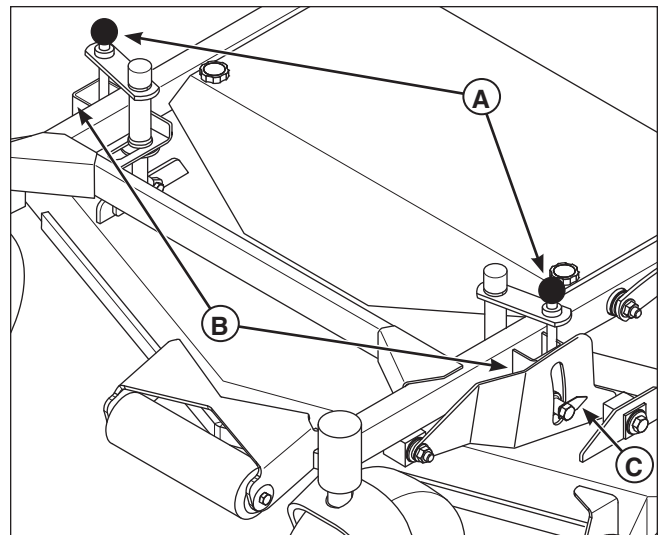

Figure 6. Cutting Height Adjustment
1. Pull the cutting height adjustment handle (A, Figure 6) up and out of the handle lock position (B) and crank the handle **CLOCKWISE** to raise the deck to the desired cutting height. Crank the handle **COUNTER-CLOCKWISE** to lower the deck to the desired cutting height. After the desired cutting heights are achieved position the cutting height adjustment handles into the handle lock position.